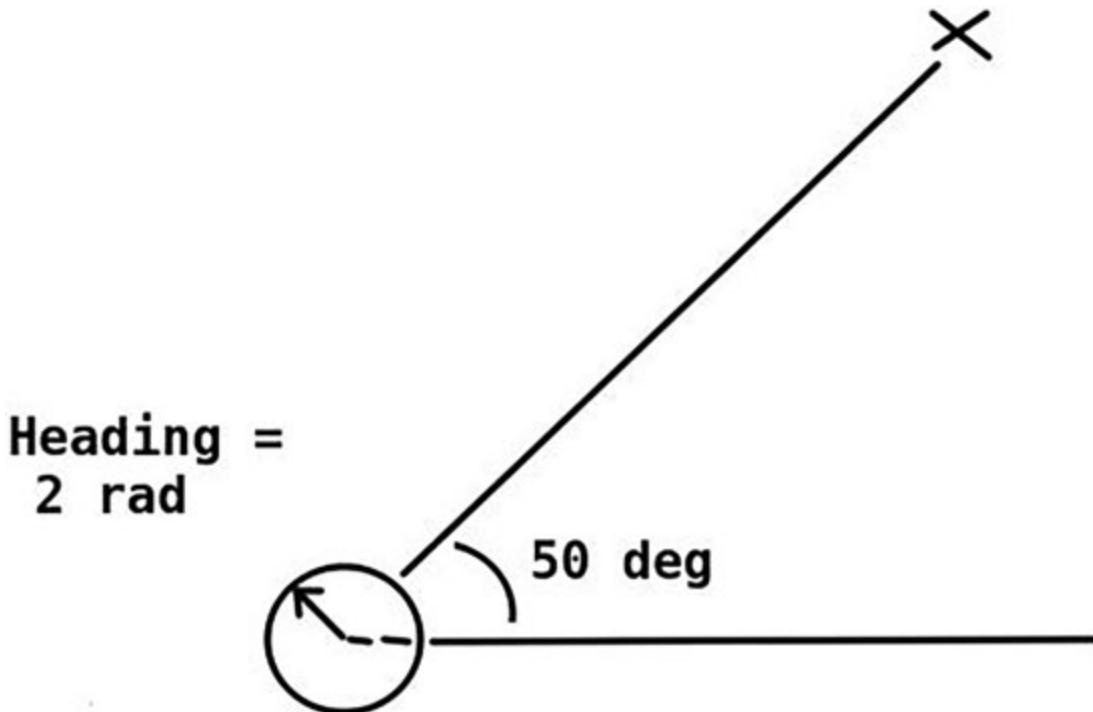

Figure 10.12
1. Refer to Figure 10.12 below. You're commanding your robot to turn and face the heading 50 degrees from polar zero. Of course, your robot only speaks in radians, so you'll have to convert. Pose theta data being published indicates the robot's current heading is at 2.0 radians. Calculate the error between the desired heading and current heading, in radians.